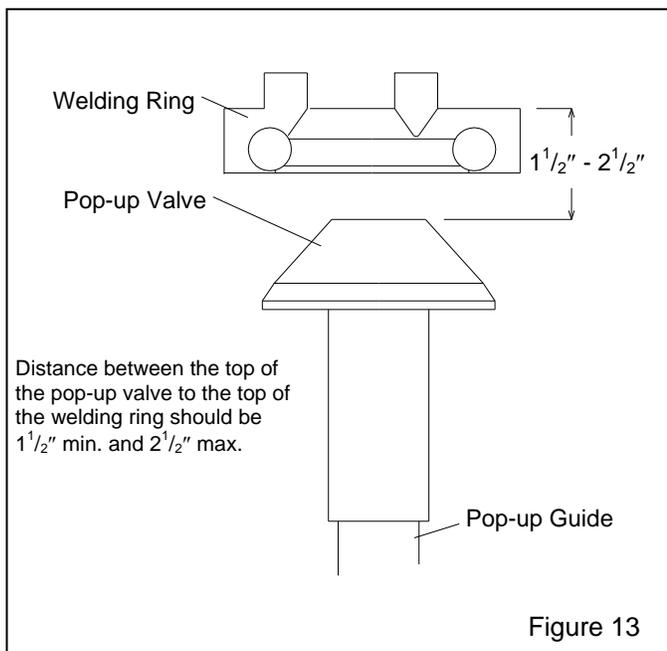

Figure 13
6.8.6 Refer to Figure 13 to check the pop-up height. If the pop-up sits too low, misalignment could occur when the pop-up comes up against the seal. If the pop-up sits too high, it will take longer for abrasive to flow through the opening when filling. Adjust the height by replacing the guide with one that is longer or shorter.